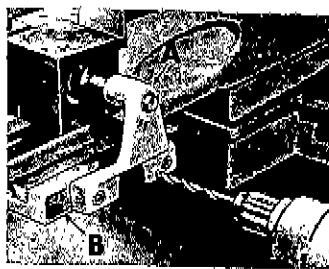

Figure 9
13. Make sure spline screw is properly aligned. Slide taper bar (A) to extreme left and extreme right. IF SCREW BINDS IN EITHER POSITION, RE-ADJUST SUPPORT BRACKET (B). Tighten taper screw bearing support (C).
- Remove the taper bar and slide, Drill two 1/4" holes 1-1/4" deep in support bracket (B, fig. 9), and in bearing support (A). Install pins (furnished) flush with surface.